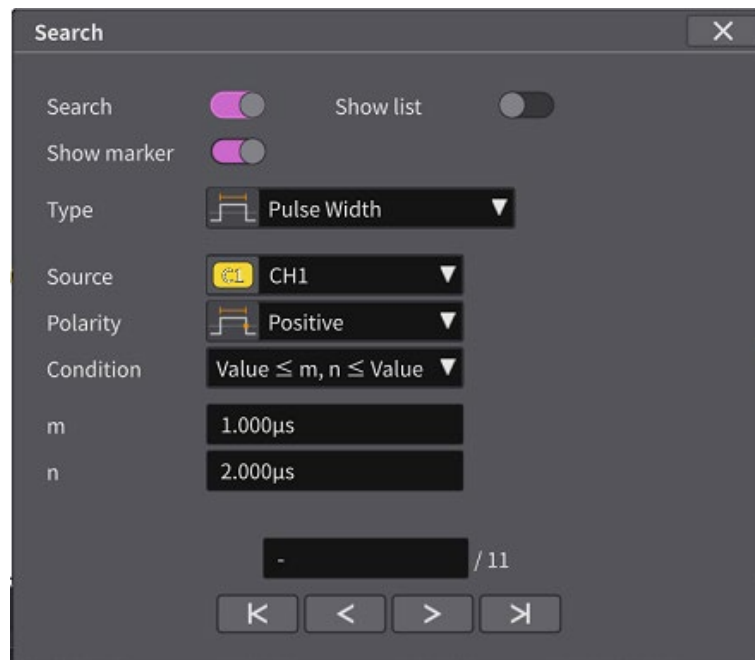

Figure 2.97 Settings Window when the Pulse Width is selected as the Search Type.
- When the list selection is Pulse Width, it will be explained in the Settings Window in Figure 2.97.